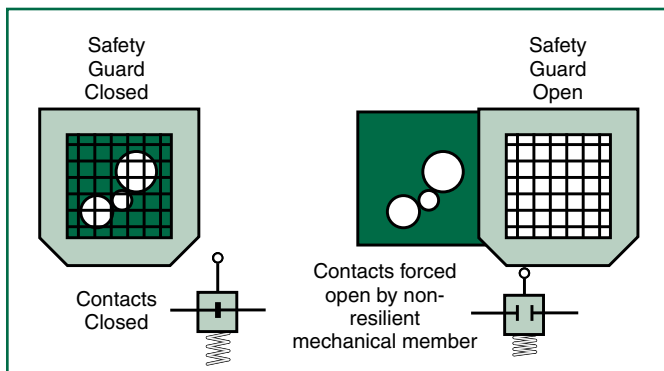

Figure 5
Positive-Mode Mounting: the mounting of a single-piece safety interlock switch (e.g. a limit switch) such that the non-resilient mechanical mechanism which forces the normally-closed (NC) contacts to open is directly driven by the interlocked machine safety guard. In this mode (as opposed to “negative-mode mounting”) the safety guard physically forces the NC contacts to open when the guard is opened. (See Figure 5.)